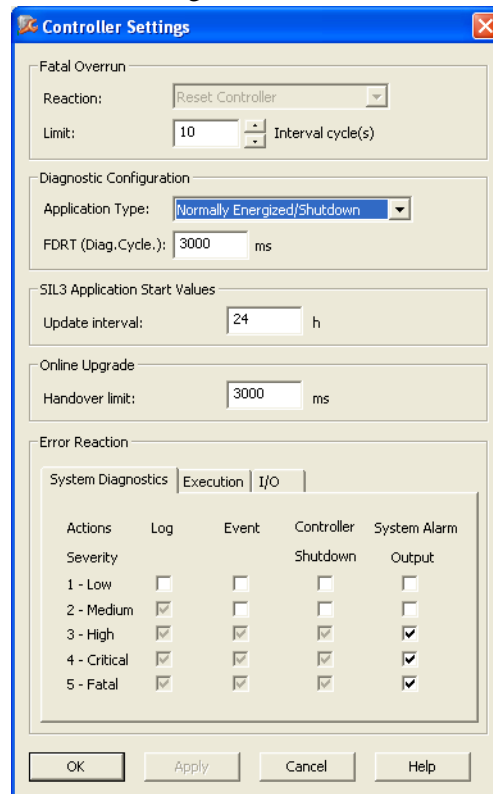

Figure 189. Controller Settings dialog for an AC 800M High Integrity controller.
The Controller Settings dialog is different for an AC 800M High Integrity (HI) controller. It is displayed by right-clicking the (HI) controller in Project Explorer and selecting **Properties > Controller Settings**. There are also differences regarding what can be configured for the Error Handler, see Figure 189.